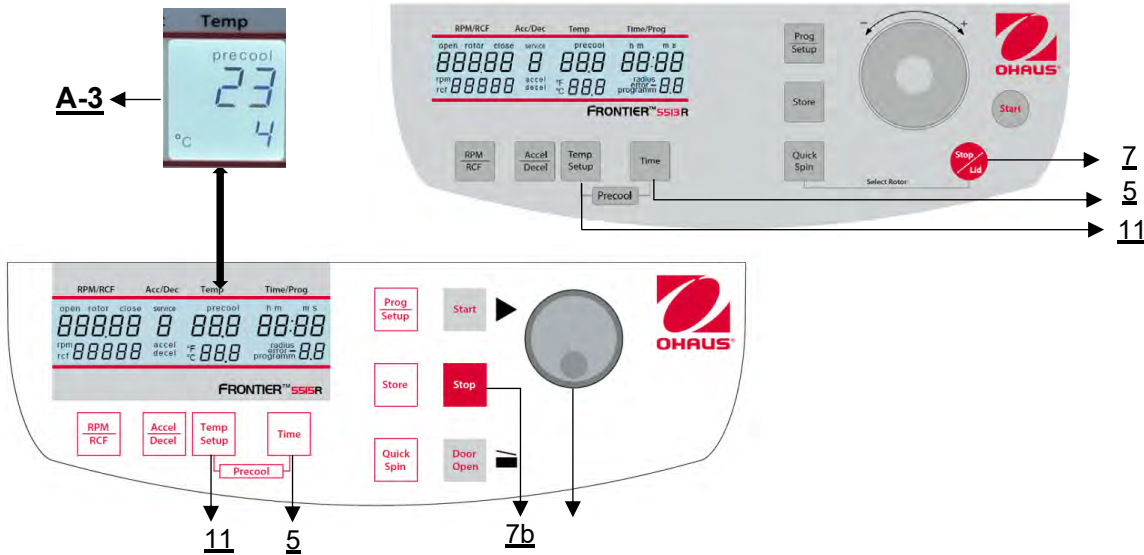

Figure 16
If the samples are temperature-sensitive it is useful to pre-cool the centrifuge, the rotor and eventually the buckets to the required working temperature. Therefore, insert the desired rotor and pre-set the respective temperature. By simultaneous pressing the keys "**Temp/Setup**" (11) and "**Time**" (5) you can start the run (**Figure 16**). While running, the unit chooses automatically a rotational speed that is equivalent to 30 or 50 % of the permitted rotational speed of the respective rotor (depending on the rotor). After the pre-set temperature is reached you can leave the pre-cooling run with the key "**Stop**"(7b) or "**Stop | Lid**" (7).